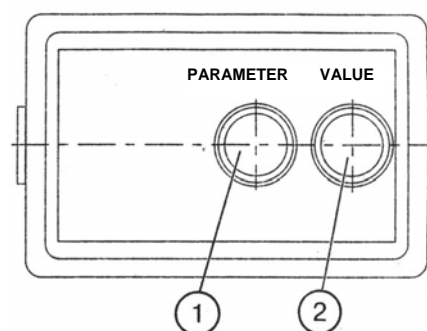

Fig. 2. Control board (A3):
### 1.2. Tachospeedometer control board (Fig. 2)
– Press the button (1) to enter the programming mode (Fig. 2).
– press the button (1) of the board and call the parameters "Z" and "R" in turn to the display (3) of the tachospeedometer (4);
– press the button (2) of the board and set the number of teeth (Z) according to Table 1 and value Rk according to Table 2: